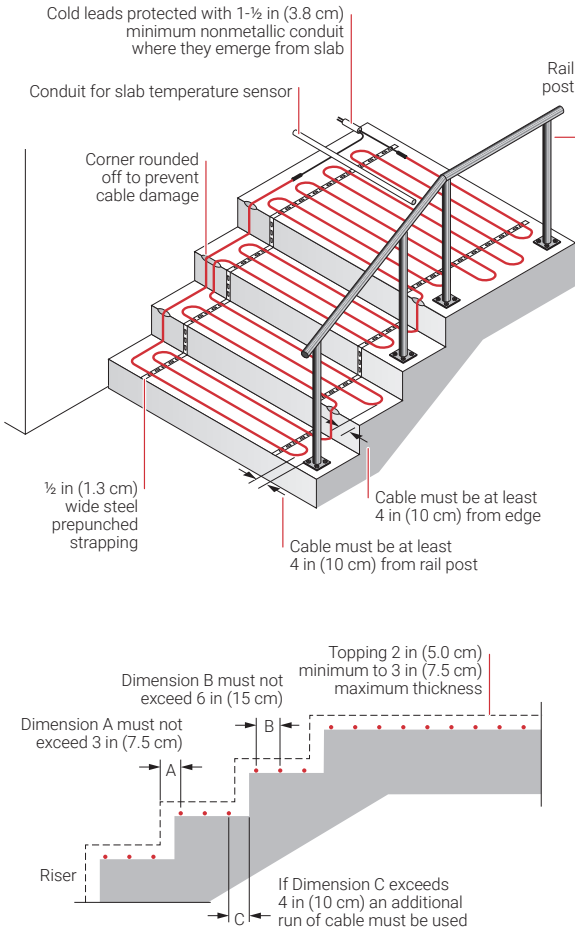

Figure 24: Stair installation detail
3. Plan the cable layout on the steps. For a two-pour concrete installation, ensure that the sharp outside corners of the steps are rounded off where the heating cable will cross them (see Figure 24). Mark the locations where rail posts will be installed on the steps. Keep heating cable away from these areas to avoid damaging the cable when the rail post anchors are installed.
4. Install prepunched strapping at 3 to 4 ft (0.9 to 1.2 m) intervals with additional runs, where required, to hold cable loops securely (see Figure 24). Fasten the strapping in place using an appropriate fastening method.
5. Lay out the heating cable as shown in Figure 24 and fasten the cable to the prepunched strapping. For concrete steps with a depth of 10.5 to 12 in (27 to 30 cm), three runs of heating cable are typically used, with the first run 2 to 3 in (5 to 7.5 cm) maximum from the front edge, or nose, of the step (this is where snow and ice build-up is the most dangerous) and the remaining two runs spaced equally apart from this run of cable. For steps with a depth of less than 10.5 in (26.7 cm), two runs of cable are typically used with the first run 2 to 3 in (5 to 7.5 cm) maximum from the front edge, or nose, of the step and the second run spaced 5 in (12.5 cm) from this run of cable. Stay at least 4 in (10 cm) from edges, outer walls, and rail post anchor points (see Figure 24).
7. Install the hot/cold joints so that they are at least 6 in (15 cm) in from the edge of the slab, ensuring that they will be completely embedded in the concrete (see Section 2.6). Protect the cold leads with nonmetallic conduit where they emerge from the slab (see Figure 24 and Section 4 for details).